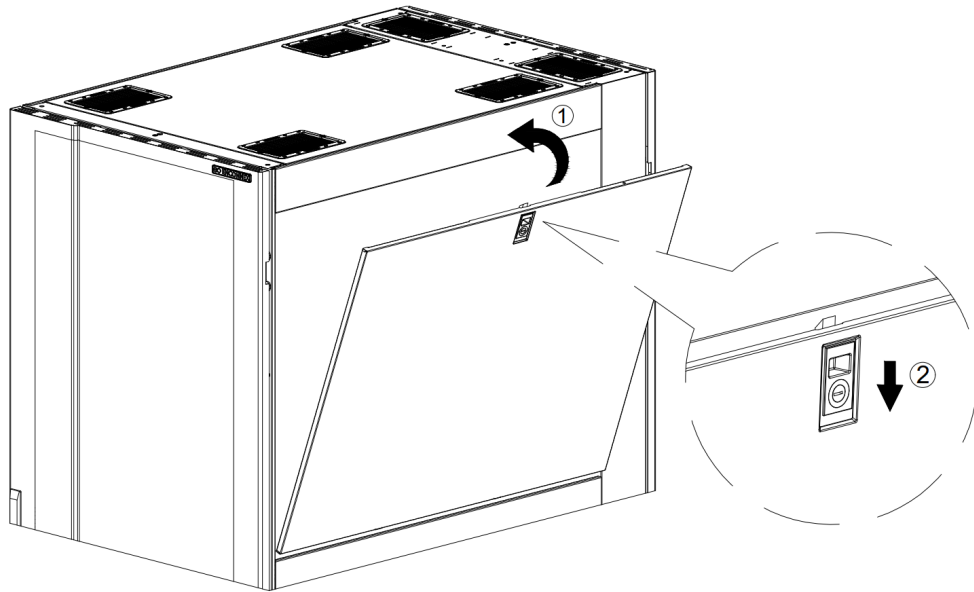

Figure 6.2.1
- Move the top of the panel toward the cabinet and slam the latch. Use the key to lock the side panel for security. (Figure 6.2.1)